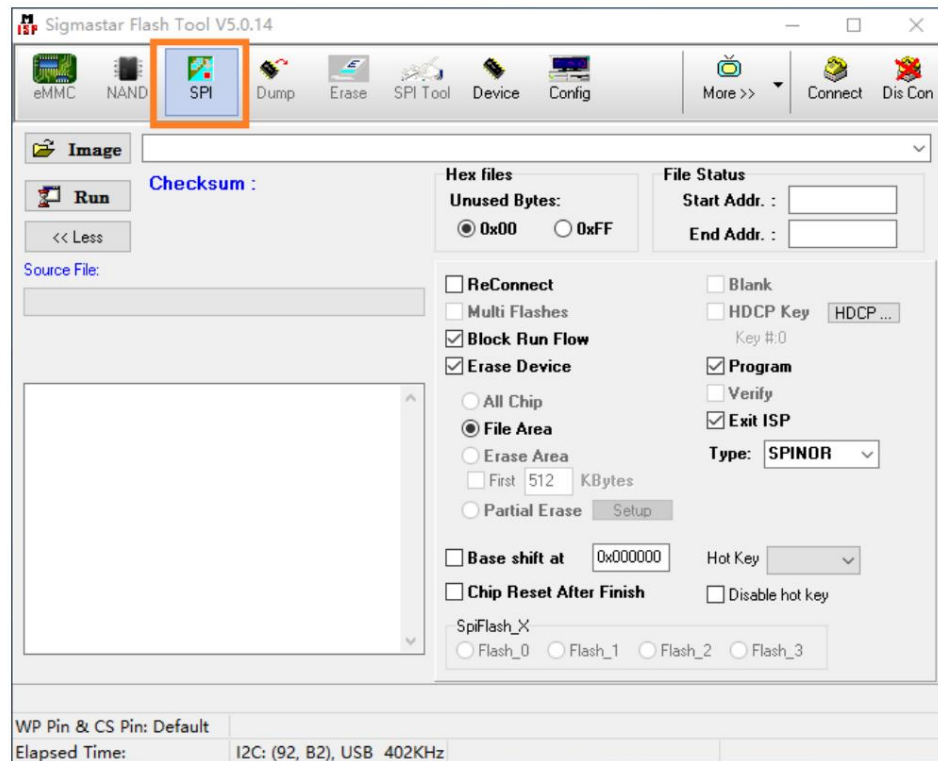

Figure 14
Step 3: Select the SPI button, and the interface as shown in Figure 14 will appear.